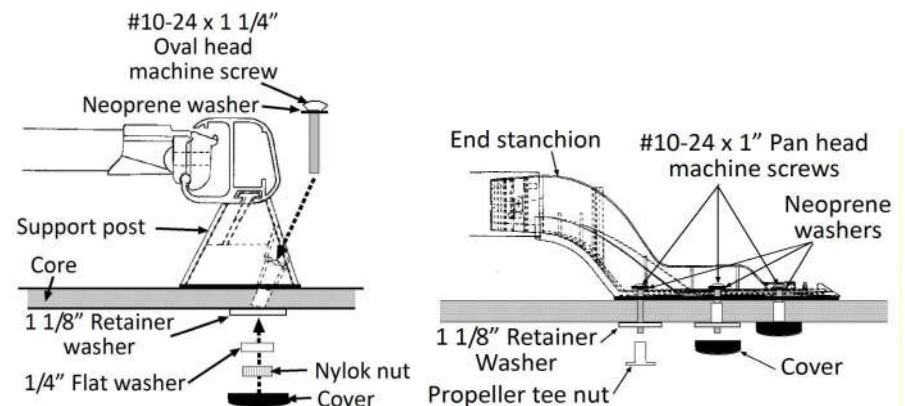

Figure 1
When center posts are used, drill 3/16" diameter holes completely through cap or vehicle roof, using the pre-formed mounting holes in the center posts as a guide to obtain the proper angle for the holes to be drilled through the cap or vehicle roof (See Center Post Fig. 1 on Page 6).
6. Assemble propeller Tee nuts and retaining washers with flange side of washer down and barrel of Tee nut up (see Figure 1 on Page 6). Press barrel of Tee nuts into 9/32" holes until flange is flush with roof panel, excluding center post holes. Tap **very** lightly with hammer if necessary.